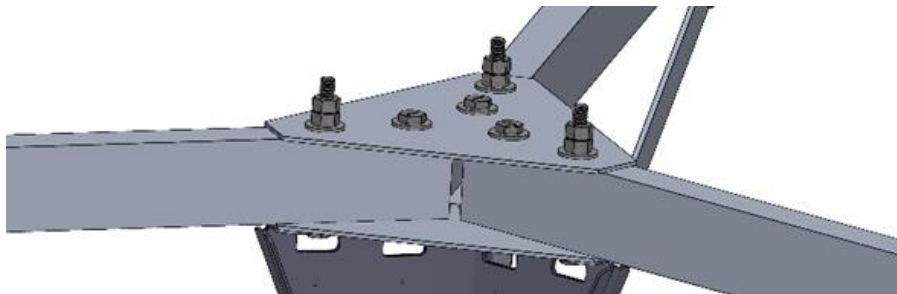

Figure 118 Tower Base
1. Loosen (6) 5-1/2" bolts as per Figure 118.